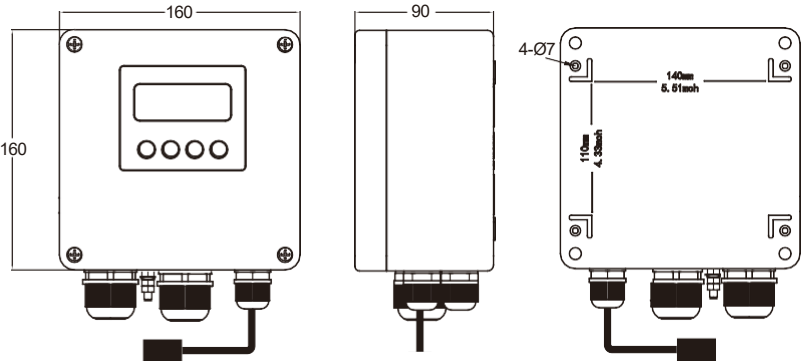
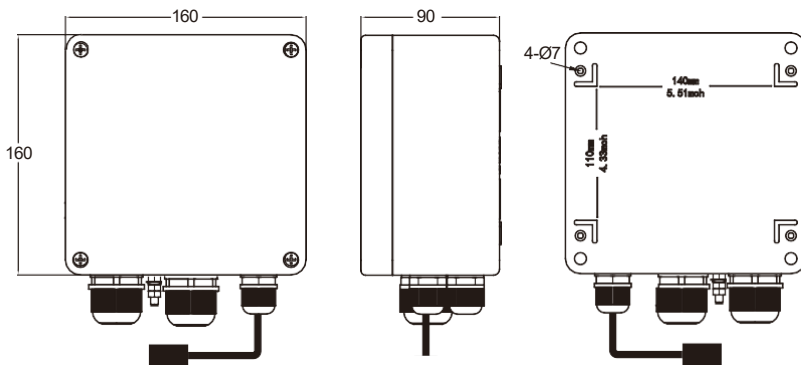

Figure 1: Overall installation dimensions with window
Figure 2: Overall installation dimensions without window
1、This product is installed vertically for use. The overall and installation dimensions are shown in Figure 1 and Figure 2.